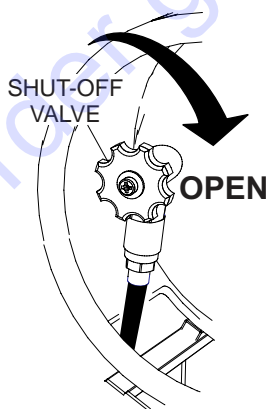

Figure 14. Fuel Shutoff Valve (OPEN)
3. Slowly **OPEN** the fuel shutoff valve (Figure 14) on the propane tank.